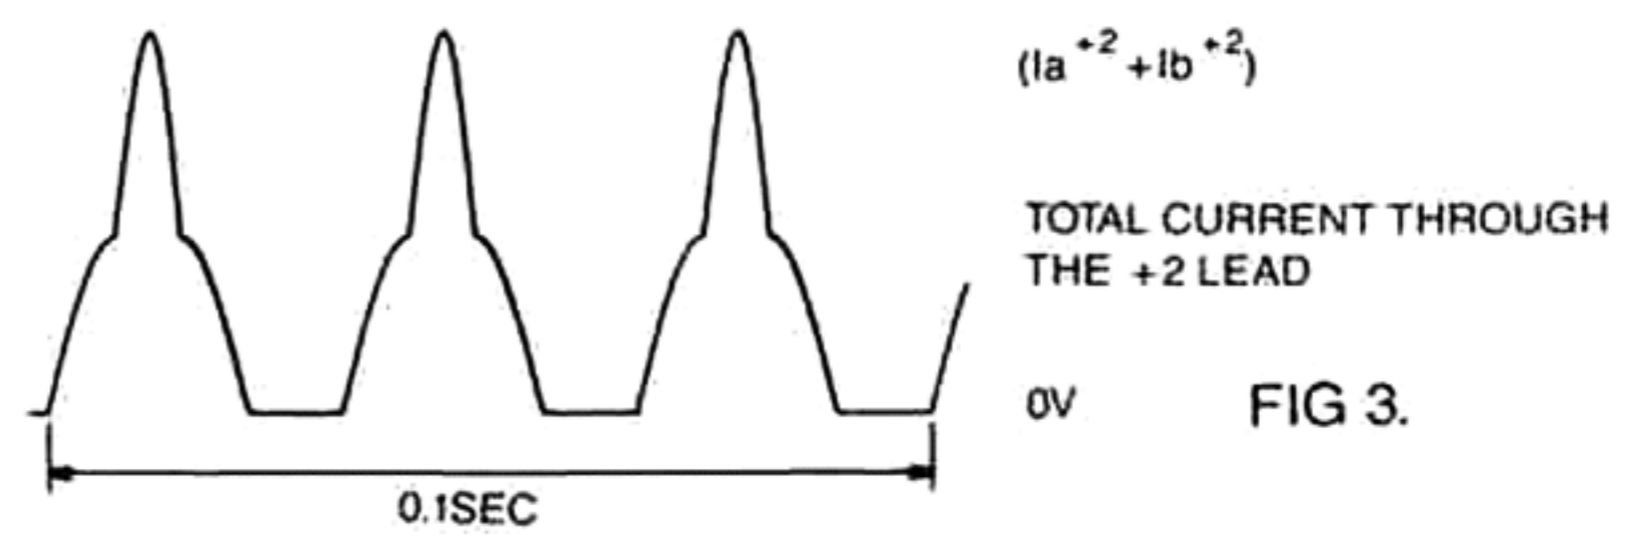

FIG 3.
6. With a disc on the turntable, put the set in service-loop 0. Switch S on and adjust the trimming potentiometer back in such a way that 3 complete pulses are visible during 0.1 sec. (fig. 3). The polarity of the oscilloscope must be chosen so that the tops of the pulses are in upward position.